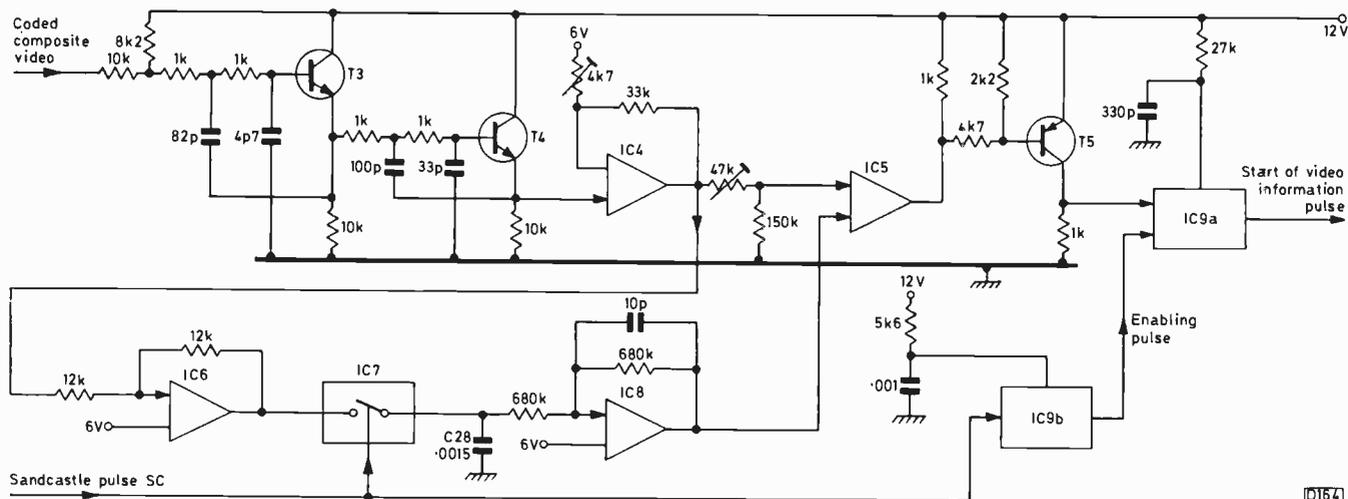

Fig. 3: Start of video detection circuit.
The circuit used is shown in Fig. 3. Transistors T3 and T4 form an active low-pass filter to remove the chrominance information. IC4 then amplifies the resulting luminance only signal five times, which means that we have to detect a rise of 150mV. IC7, a 4016 CMOS switch, samples the luminance signal during the 4µsec sandcastle line blanking pulse (SC), charging C28. The output from IC8 (a buffer) is fed to IC5, an LM360 comparator i.c., which compares the charge on C28 with the video signal from IC4. Transistor T5 changes the output from IC5 to a level suitable for IC9a.